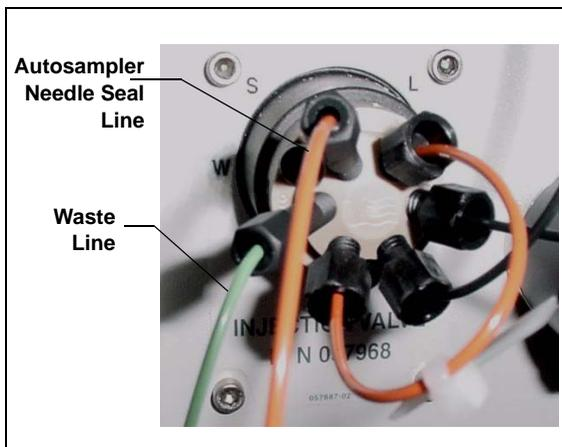
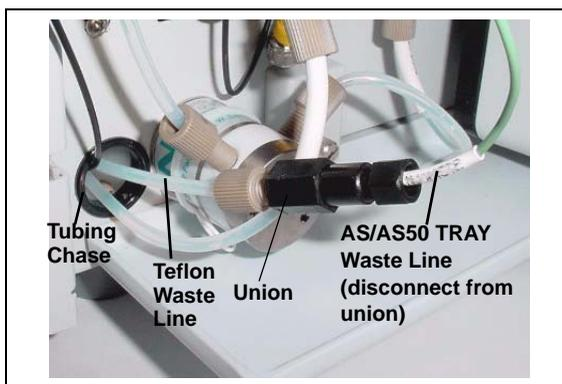

Figure B-40. ICS-1500 Injection Valve
Figure B-41. Injection Valve Waste Line Union
4. Connect the needle seal line from the autosampler to port **S (5)** on the injection valve (see Figure B-40).
The green waste line that is connected to port **W (6)** on the injection valve (see Figure B-40) is connected with a union to a Teflon waste line (see Figure B-41) and routed through the tubing chase to the ICS-1500 rear panel.